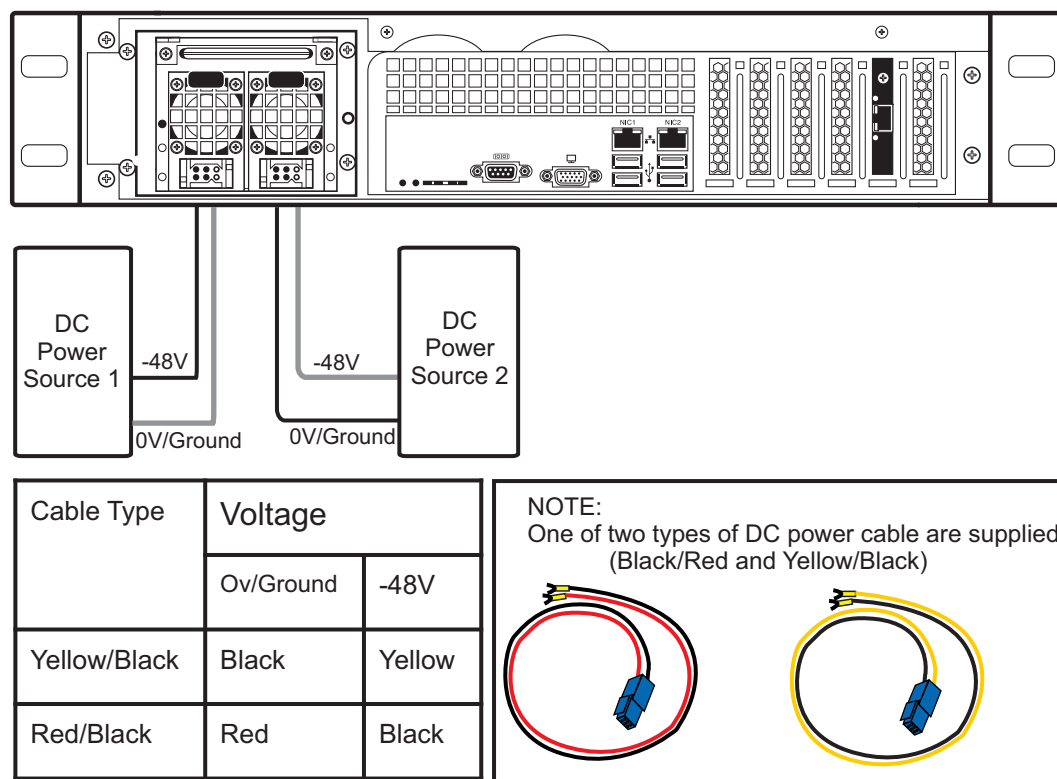

Figure 3.4 7800-CTRL DC Power Connections
1. Connect the first DC power connector of the 7800-CTRL to DC power source one. See figure 3.4 on page 25.